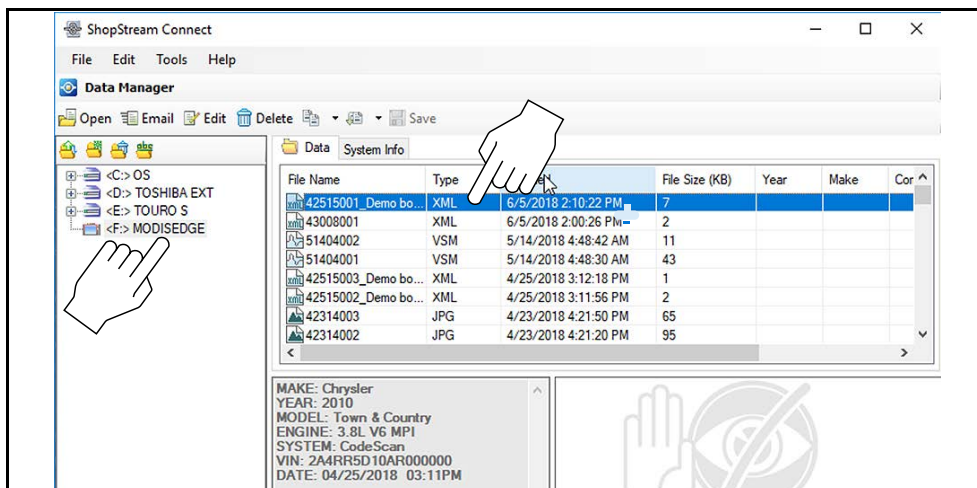
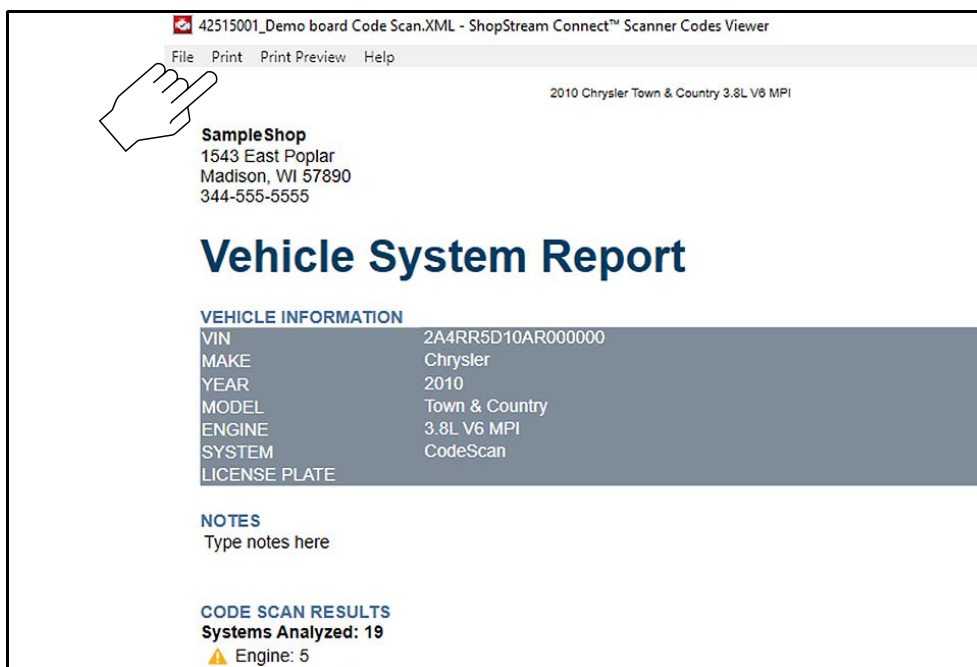

Figure 14-5
Figure 14-6
1. Double-click the code scan .XML file from the file list to open the Vehicle System Report (Figure 14-5) in the Code Scan Viewer (Figure 14-6).
2. Select **Print** or **Print Preview** from the Code Scan Viewer menu to print or preview the Vehicle System Report (Figure 14-6).